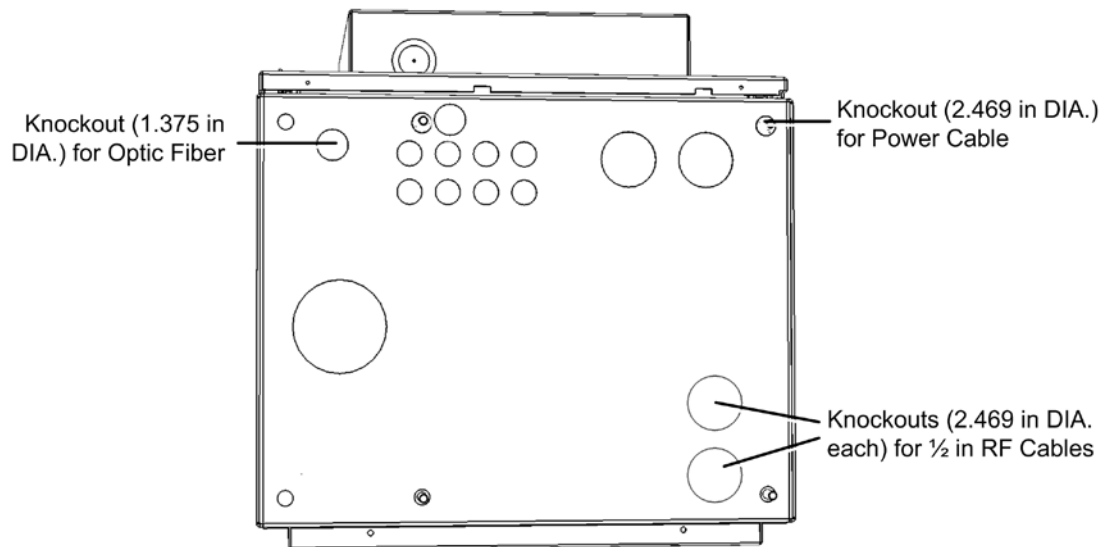
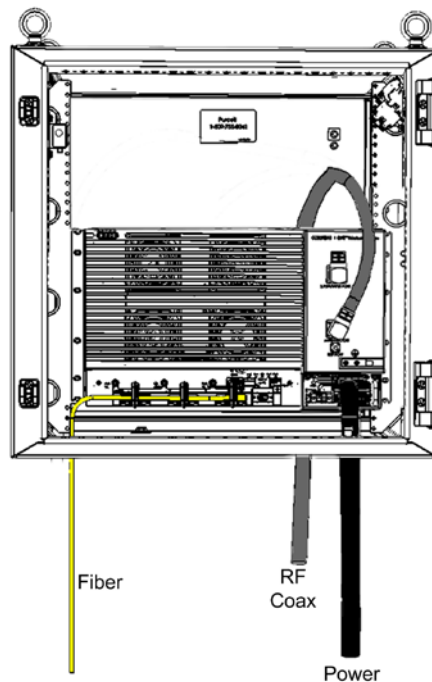

Figure 4-13. Required Knockouts Positions
Figure 4-18. Example of Routed Connection Cables
- Recommended - flexible cable conduits for routing connections cables through cabinet knockouts; refer to Figure 4-13 for relevant knockouts; Following are recommended Heyco part numbers for flexible conduits:
2. Referring to Figure 4-13 for relevant knockouts, use appropriate knockout tools to punch out knockouts for routing connection cables.
2. Connect RF antenna coax - (for both 4.3-10 Type “ANTENNA PORT” and “2.5GHz INPUT PORT”) route coax cable with 90° right angle connector through its’ designated knockout (see Figure 4-13) behind and above the MRU chassis and connect to the corresponding RF port. Refer to Figure 4-18.
4. Route optical fiber from ICU and power cable through designated knockouts (see Figure 4-13) and connect according to instructions in Section 4.4. Refer to Figure 4-18.